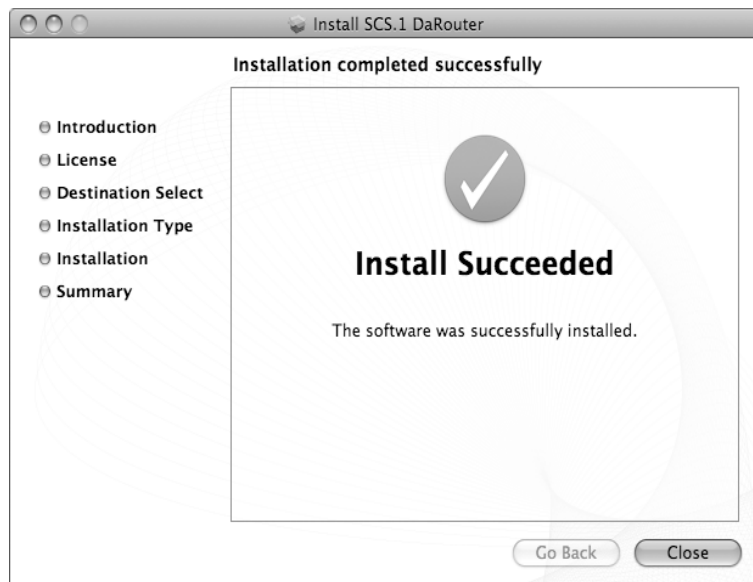

Figure 4.21
6. DaRouter will be installed. Once done, click **Close**. (Figure 4.21)